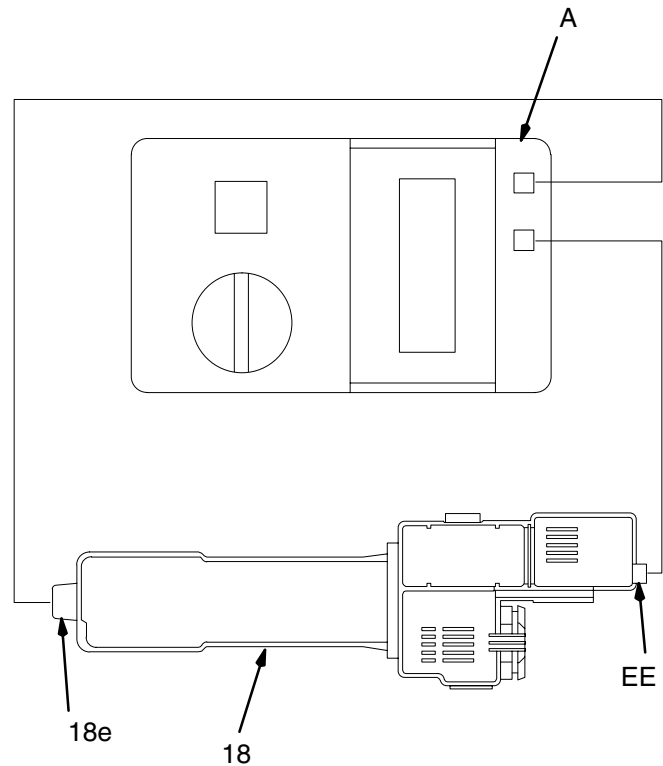

Fig. 5
Test Power Supply Resistance (See Fig. 5)
Measure the resistance from the power supply's ground contact point (EE) to the contact inside of the power supply seal (18e) [the conductive rubber contact may be slightly recessed into the seal]. See Fig. 5.